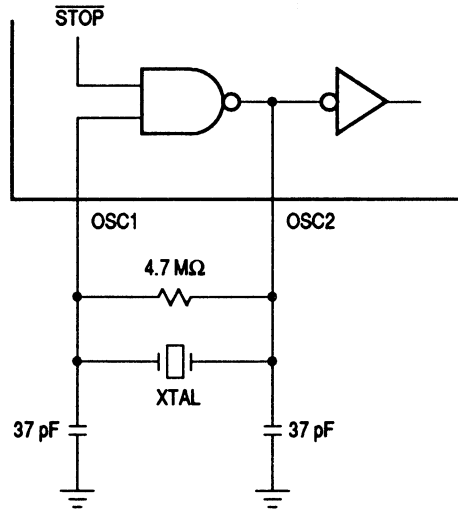

Figure 1-4. Crystal/Ceramic Resonator Connections
- Oscillator driven by a crystal or ceramic resonator (See Figure 1-4.)
The circuit in Figure 1-4 shows a typical crystal oscillator circuit for a parallel resonant crystal. Follow the crystal supplier's recommendations, as the crystal parameters determine the external component values required to provide maximum stability and reliable start-up. The load capacitance values used in the oscillator circuit design should include all stray layout capacitances. Mount the crystal and components as close as possible to the pins for start-up stabilization and to minimize output distortion.
In cost-sensitive applications, use a ceramic resonator in place of the crystal. Use the circuit in Figure 1-4 for a ceramic resonator, and follow the resonator manufacturer's recommendations, as the resonator parameters determine the external component values required for maximum stability and reliable starting. The load capacitance values used in the oscillator circuit design should include all stray layout capacitances.